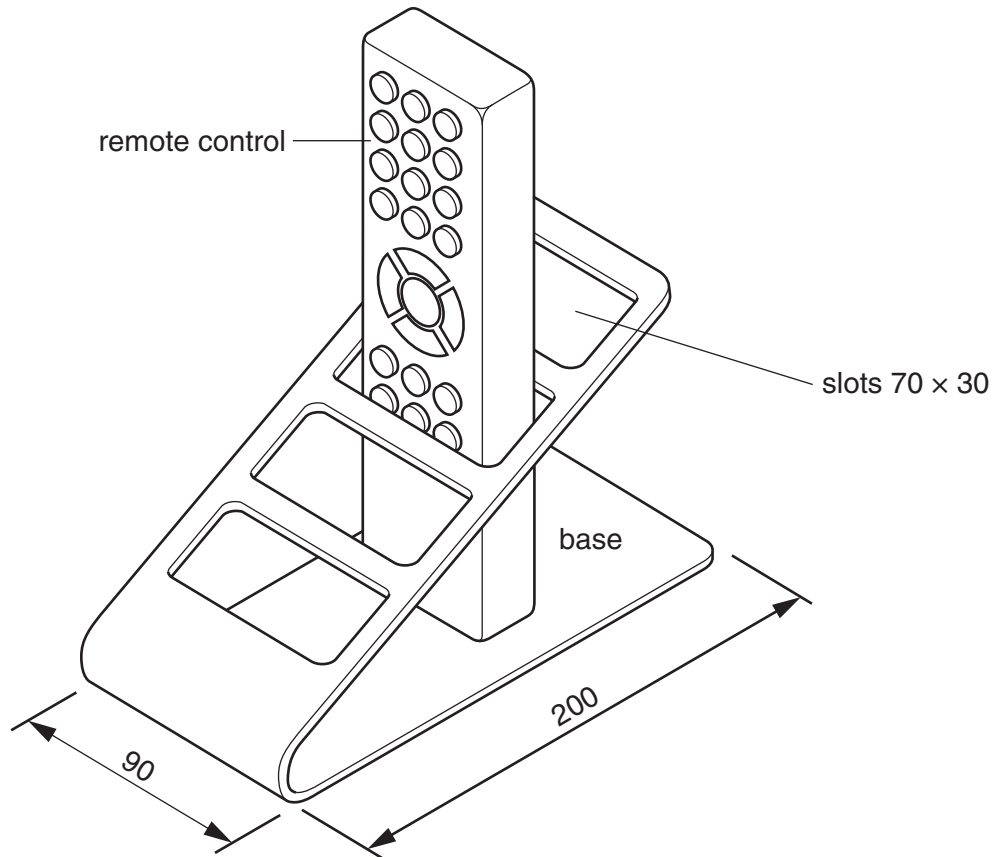

Fig. 6
- 4 Fig. 6 shows a remote control holder made from 4 mm thick acrylic.
- (a) The remote control holder shown in Fig. 6 will be made by hand in a school workshop. Complete the table below to describe the processes used when planning the manufacture of the remote control holder shown in Fig. 6.